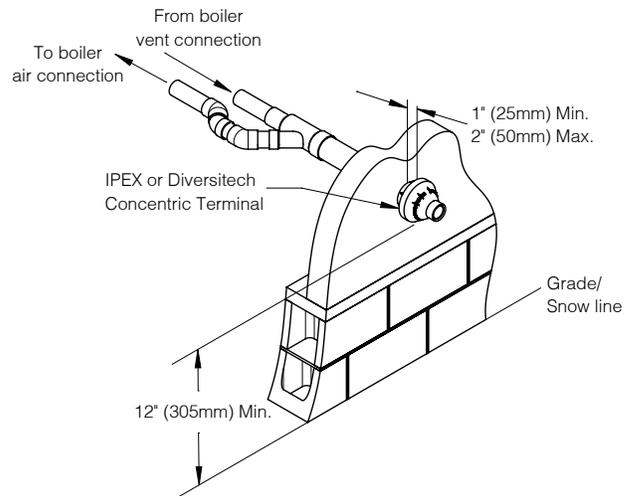

Figure 8-10: CPVC/PVC Concentric Terminal
- Concentric vent terminals listed in Table 8-9 may be used to terminate air and vent outside building per Figure 8-10. Both air and vent pipes must attach to terminal kit.